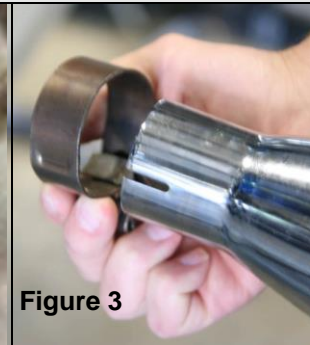

Figure 3
2. Spray lubricant onto the muffler housing and slide the stock clamp on. (Figure 3) Mount the muffler housing onto the front head pipe, sliding forward so the rear mounting location on the muffler lines up with the bracket on the bike.